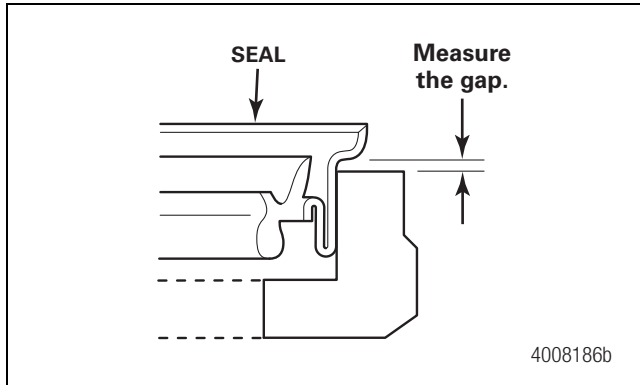

Figure 5.11
2. Use a feeler gauge to measure the gap around the complete flange-to-cage area. The seal is correctly installed if the gap is less than 0.010-inch (0.25 mm) around the circumference of the seal flange. Figure 5.11.